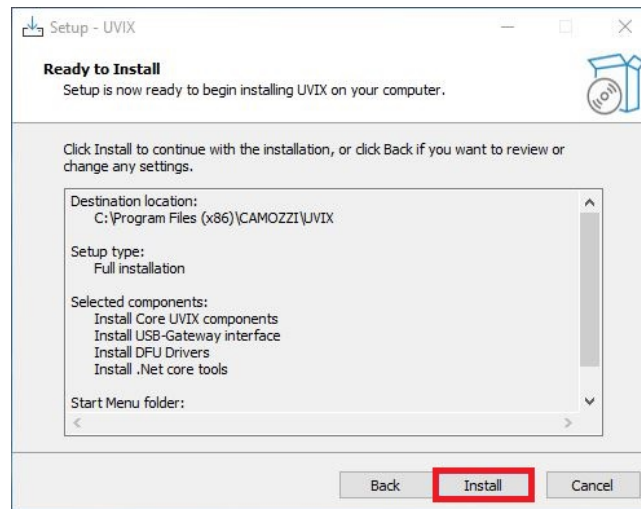

Figure 4.16: Installation Settings Summary
6. Verify the installation settings and click "Install," as shown in figure 4.16.